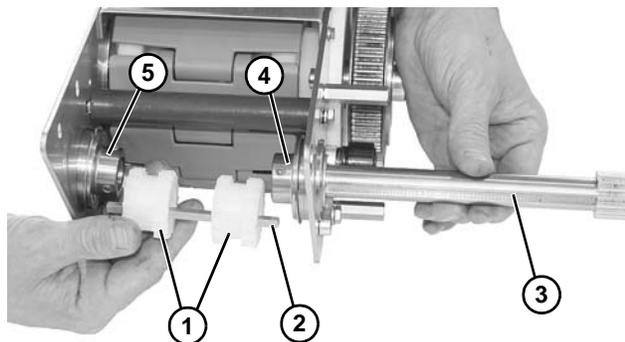

Figure 70
1. Install gears (**Figure 70, item 1**) onto key (**Figure 70, item 2**).
2. Install drive shaft (**Figure 70, item 3**) through bearing (**Figure 70, item 4**), gears and key, and opposite side bearing (**Figure 70, item 5**).